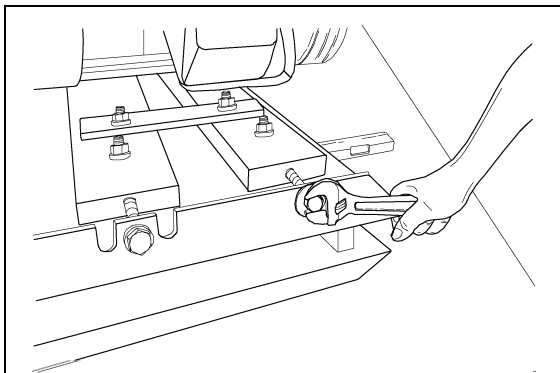

Figure 4H
3. Check the motor name plate for the correct motor frame size. Then refer to the Drawing on Page 20 to determine proper mounting holes and spacing of the motor mount channel. The spacing of the motor mount channels is changed by moving the channel to the proper notch cut into the main base of the blower platform. See Figure 4H and the Drawing on Page 20. Finish by bolting the motor securely to the channels. Leave the four 1/2" carriage bolts loose, holding the channels to the main frame.
5. Place the matching set of V-belts on the pulleys. Tighten the belts by evenly turning the cap screws clockwise. Belts should have  $\frac{3}{8}$ " deflection at ten pounds pressure per belt. (See Figure 4H).